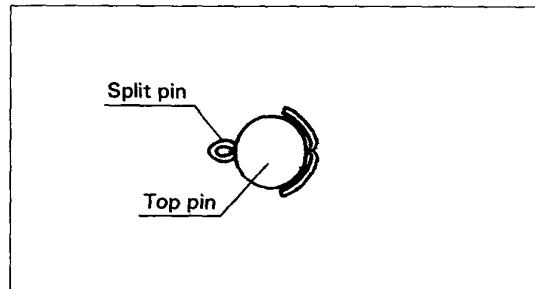

Fig. 2
- d) Firmly bend the pointed end of the split pin as shown in Fig. 2.
Mount the suspender E to the hoist body using the top pin (or top bolt), and a nut which has been removed as above, and a new split pin. Firmly bend the pointed end of the split pin as shown in Fig. 2.
Mount the suspender G to the connection yoke with the connection yoke rubber, the yoke bolt and the slotted nut. Then insert a new split pin and bend it securely as shown in Fig. 2.